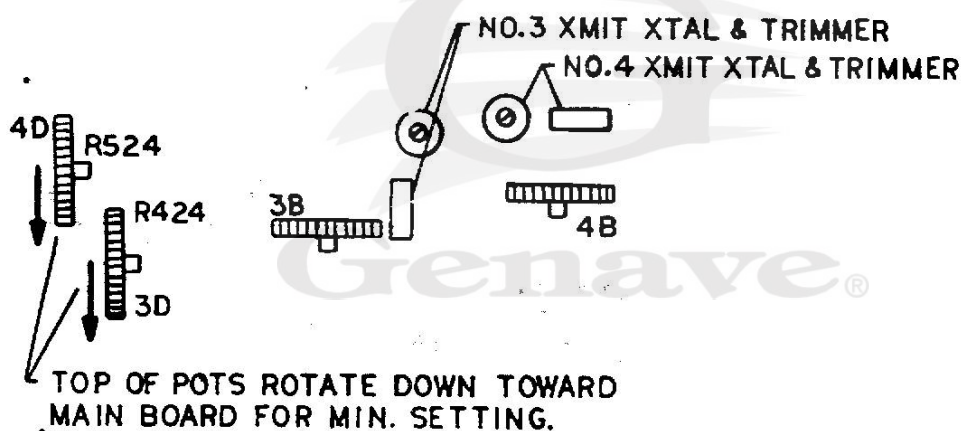

Figure 4-8. Modulator Board (Rear View)
3. Install TRANSMIT crystal(s), Y201 - Y301, in appropriate sockets in left front quadrant of main PC board. The crystal(s) for channels 3 and 4, Y401 and Y501, (if used) are located on vertical modulator board in GMT-425L only. Refer to Main Board Component Location diagram (Figure 4-10) and to Modulator Board Component Location diagram (Figure 4-8) for TRANSMIT crystal locations.